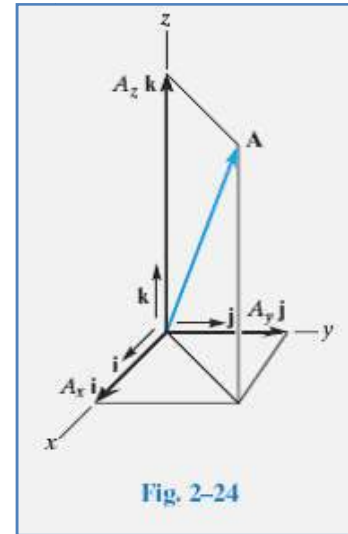

Fig. 2-24
- Since the three components of \mathbf{A} in Eq. 2-2 act in the positive \mathbf{i} , \mathbf{j} , and \mathbf{k} directions, Fig. 2-24, we can write \mathbf{A} in Cartesian vector form as: